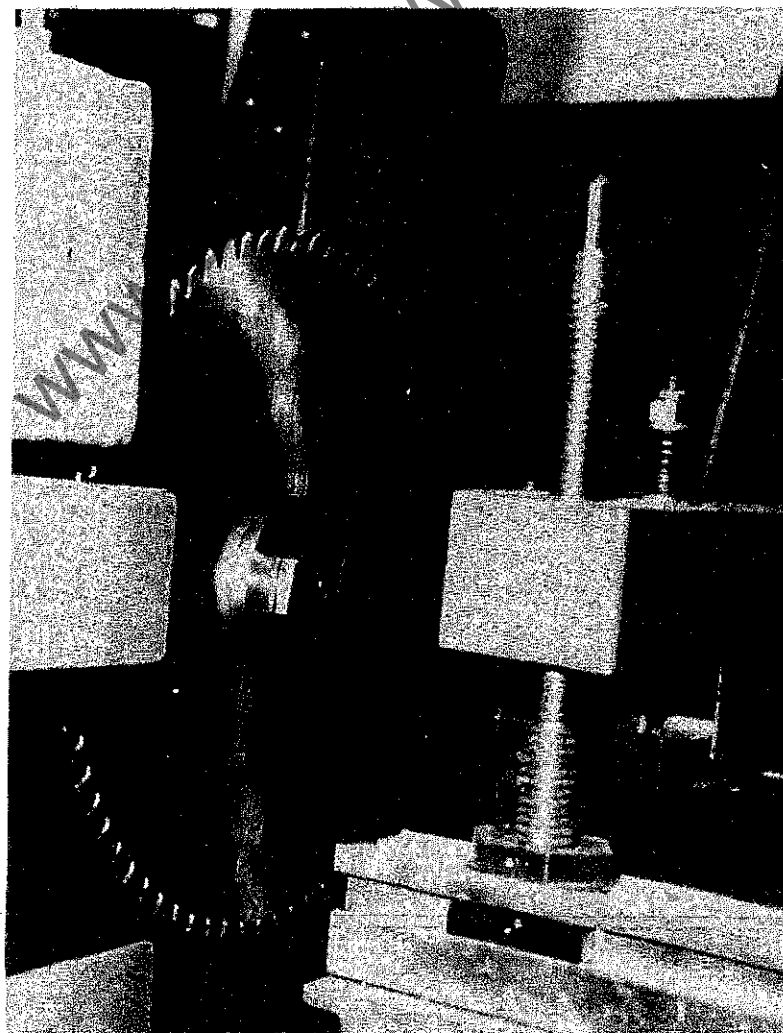

FIG.22
- e) Place toggle bar in rear flange and use box spanner to remove nut as shown in FIG.22.